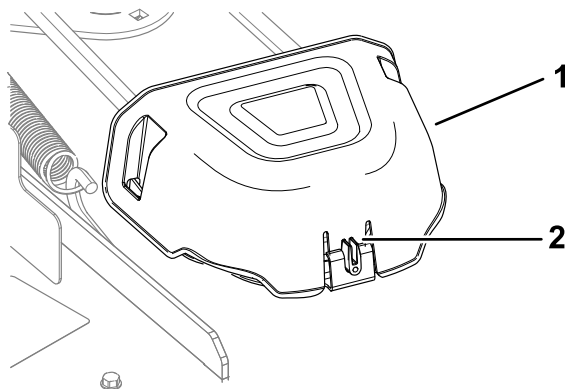

Figure 48
4. Push in the tab on the cover to remove the pulley covers (Figure 48).